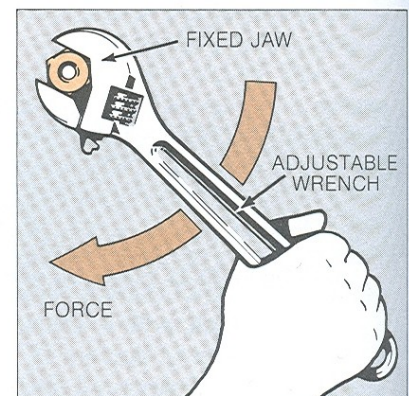

Figure 10-26. When using an adjustable wrench, be sure it is tightly adjusted to the nut. Pull the wrench so that the force is on the side of the fixed jaw.
3. Whenever possible, always *pull*, rather than *push*, on a wrench. See Figure 10-26.